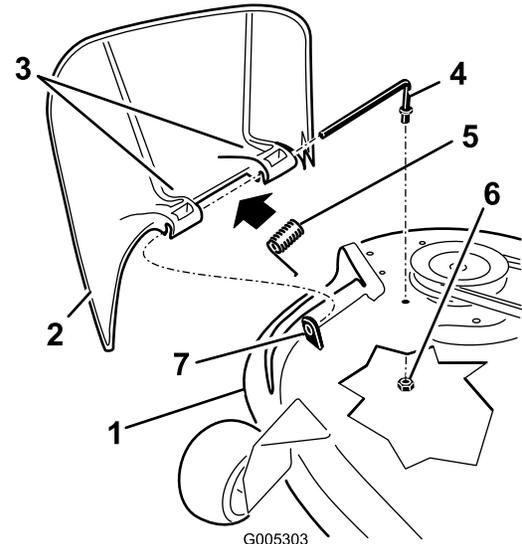

Figure 53
1. Locate items shown in Figure 53.
2. Remove the nut (3/8 inch) from the rod under the mower (Figure 53).
3. Slide the rod out of the short stand-off, spring, and grass deflector (Figure 53). Remove the damaged or worn grass deflector.
4. Replace the grass deflector (Figure 53).
6. Place the spring on the rod, with end wires down, and between the grass deflector brackets. Slide rod through second grass deflector bracket (Figure 53).
7. Insert rod at front of grass deflector into short stand-off on deck. Secure rear end of rod into the mower with a nut (3/8 inch) (Figure 53).